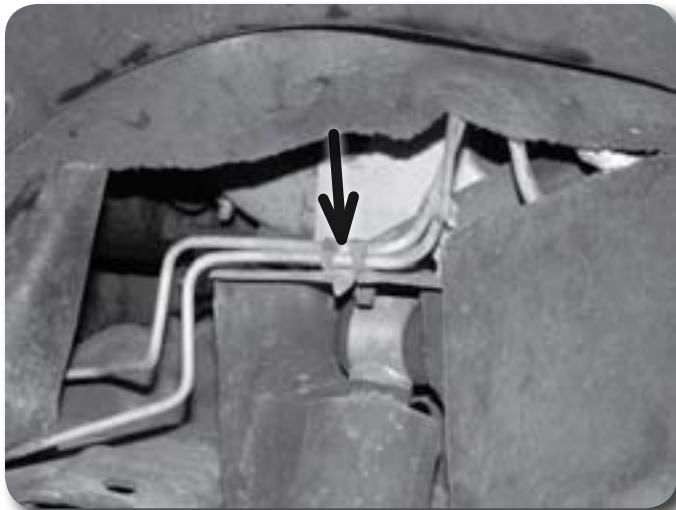

Figure 18
28. Remove the bolt mounting the brake lines to the driver's side shock mount **Figure 18**.